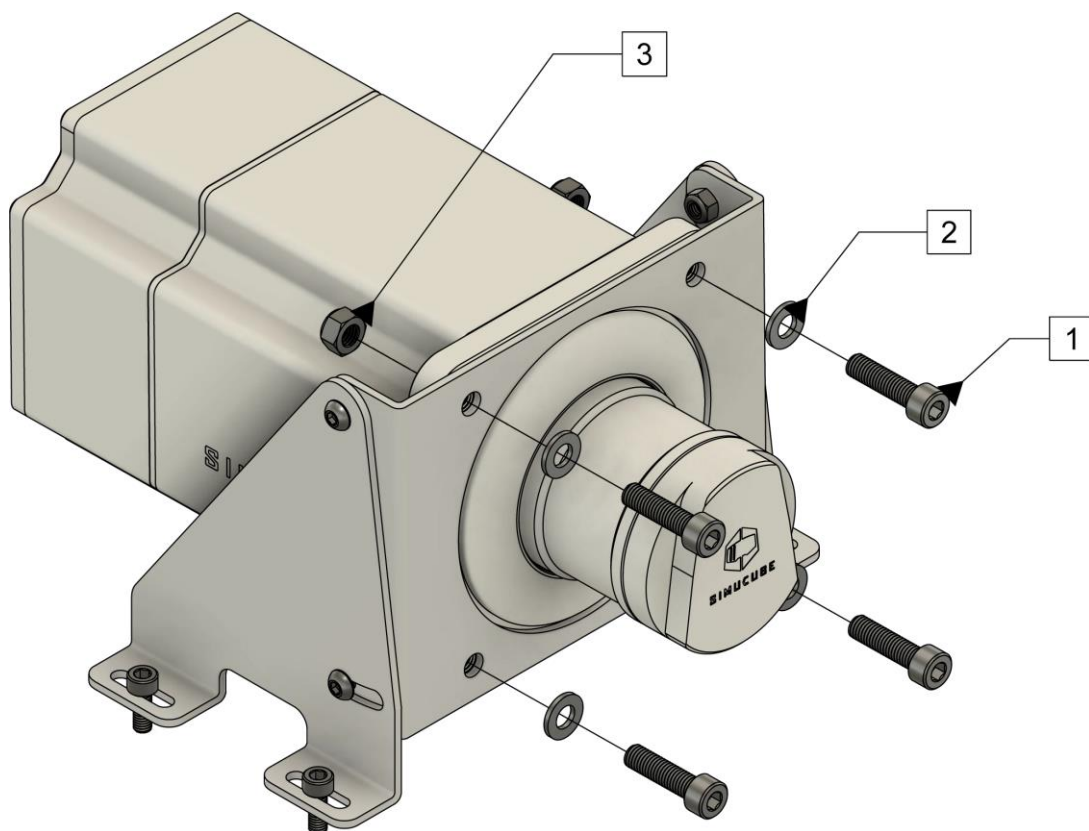

Figure 3 Mounting Simucube 2 using a mounting bracket.
Simucube 2 can be mounted with separate bracket that can convert the front mount to a horizontal platform (table) mounting as in Figure 3. Mounting brackets be found from Simucube resellers listed on <https://www.simucu.be> website.
Mount Simucube 2 as shown in Figure 3. Sport and Pro models are mounted with 30mm M8 bolts with 1.25mm thread pitch (1) and M8 flat washers (2). Simucube 2 Ultimate is mounted through-the motor flange with 40mm M8 bolts (1), M8 flat washers (2) and M8 locking nuts (3).